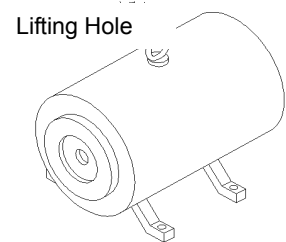

Figure 2-45
(6) Lifting description of the working motor as shown in Figure 2-45 .